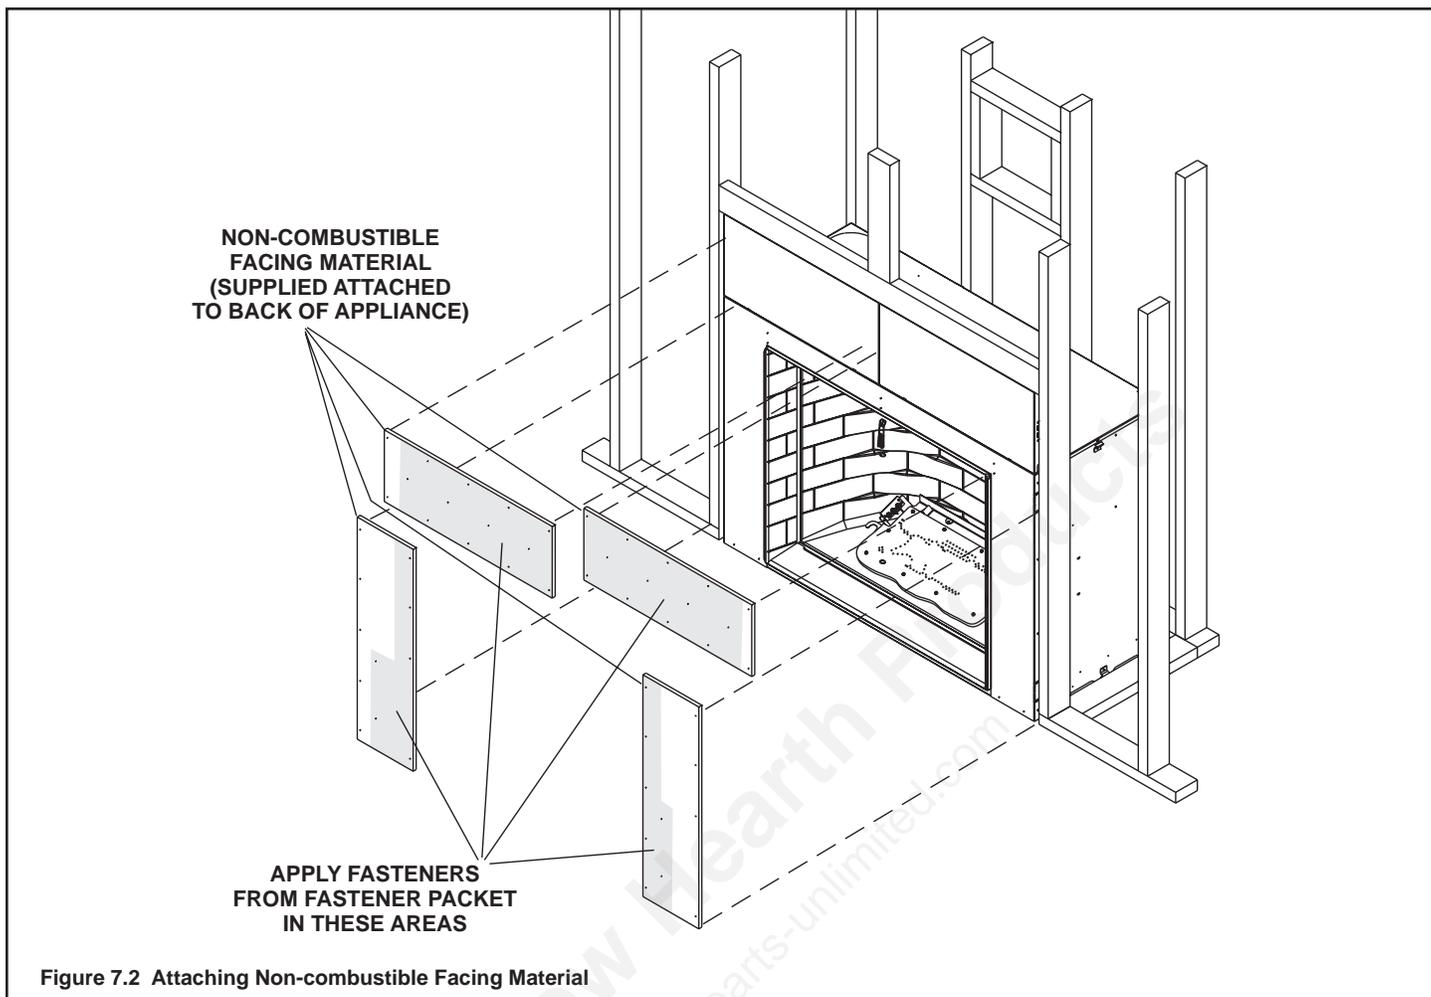

Figure 7.2 Attaching Non-combustible Facing Material
- Center and attach two top boards to the framing members. See Figure 7.2.